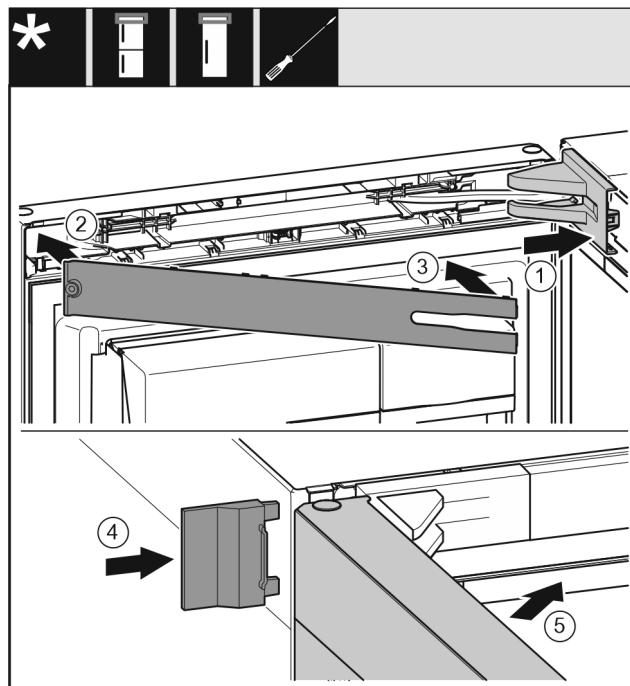

Fig. 24
- ▶ Position the swap bearing block cover *Fig. 24 (1)* and snap it in. You may need to push it carefully apart.
- ▶ Attach the cover *Fig. 24 (2)*.
- ▶ Swivel in the faceplate *Fig. 24 (3)* and snap it on.
- Slide on the outer cover Fig. 24 (4).
- Close the top door Fig. 24 (5).